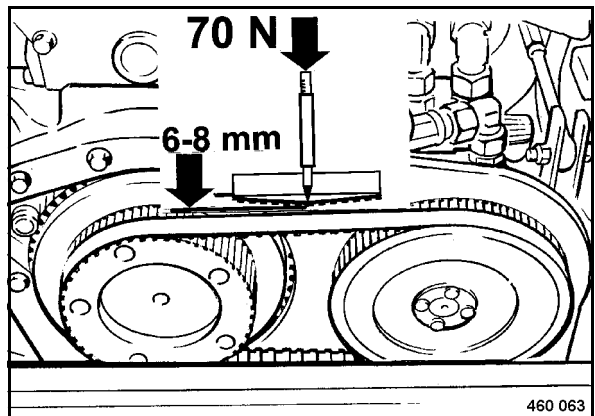

Fig. 102
- Check the entire circumference of the toothed belt (Fig. 102) for starting cracks in the area of the basis and the back of the teeth.